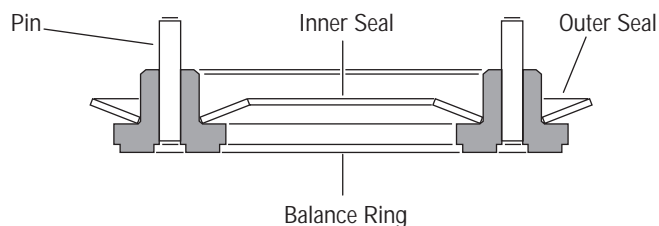

Figure 19
42 Apply petroleum jelly on inner and outer face seals. Install seals on balance ring as shown in Figure 19.
**Important:** Install face seals in the positions shown in Figure 19 or the motor will not operate properly. Do not force or bend these face seals. Any damage to these seals will affect the operation of the motor.